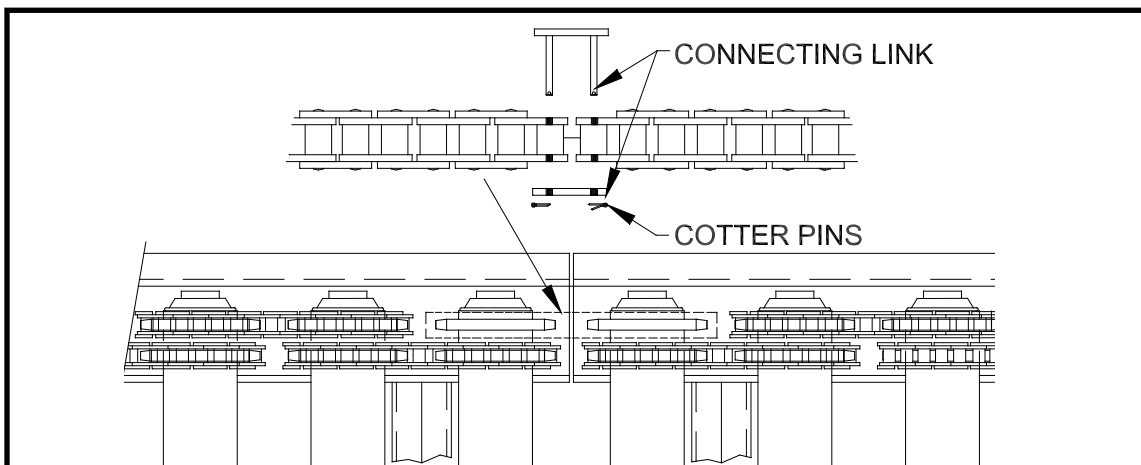

FIGURE 3
4. Take off conveyor chain guards and with strands of chain provided, connect the end rollers from one frame section to another. See FIGURE 3.